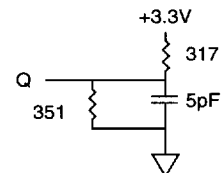

Fig. 2 OUTPUT LOAD EQUIVALENT
6. Output loading is specified with  $C_L = 5pF$  as in Fig. 2. Transition is measured  $\pm 500mV$  from steady state voltage.
11. The load used for  $V_{OH}$ ,  $V_{OL}$  testing is shown in Fig. 2. AC load current is higher than the shown DC values. AC I/O curves are available upon request.